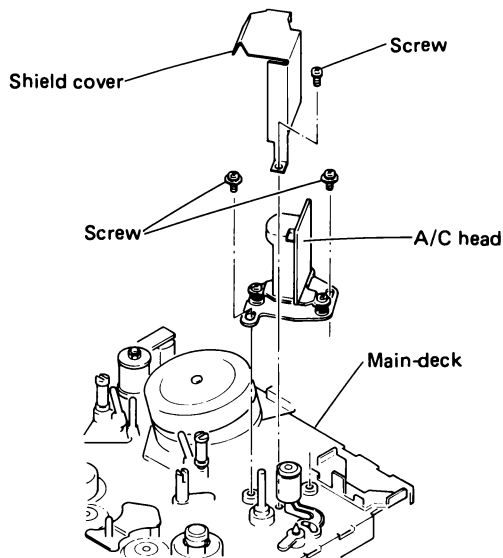

Fig. 2-8 A/C head replacement
2.3.3 Audio/Control Head (See Figure 2-8.)